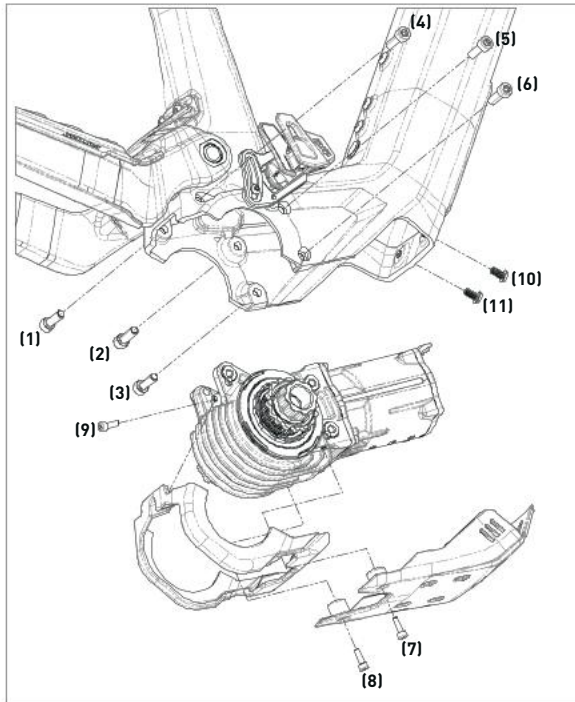

Figure 14
- Remove the forward pair of screws (#10 and 11 in Fig. 14) fixing the cover to the underside of the downtube using a Torx T25 wrench. The covers and DU can be removed as a group. Removal of the covers from the DU is covered in the last step of this section.
- Remove the six DU mounting screws (#1–6 in Fig. 14) using a Torx T30 socket and socket wrench. Caution: the drive unit is heavy and will fall out once drive unit bolts are uninstalled.
- If necessary, separate the covers from the DU by using a 3 mm hex key to remove three M4 screws (#7–9 in Fig. 14).
- After the DU has been aligned and all six mounting screws loosely threaded, tighten screws #1–6 in numerical order as shown in Fig. 14 to 14Nm each. The left-side screws should be tightened first, and right-side screws last.